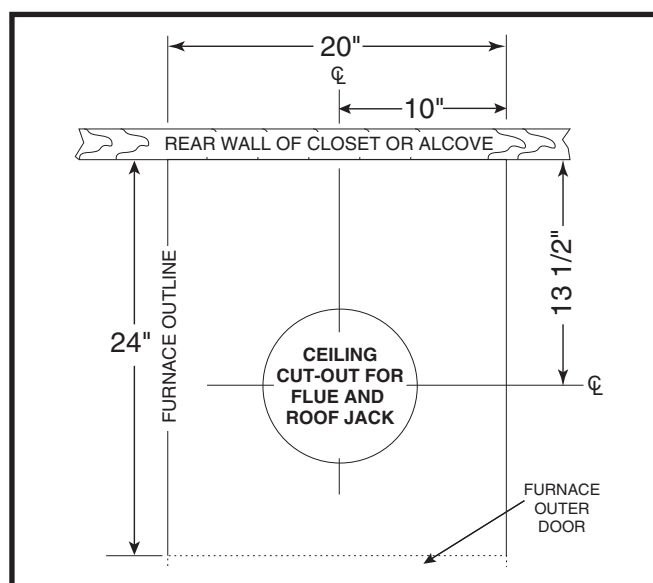

Figure 20. Cut-Out Dimensions for Flue & Roof Jack
1. Locate center of Roof Jack opening, measure 13 1/2" from the rear wall of closet or alcove along the center line of furnace and floor opening. See Figure 20.